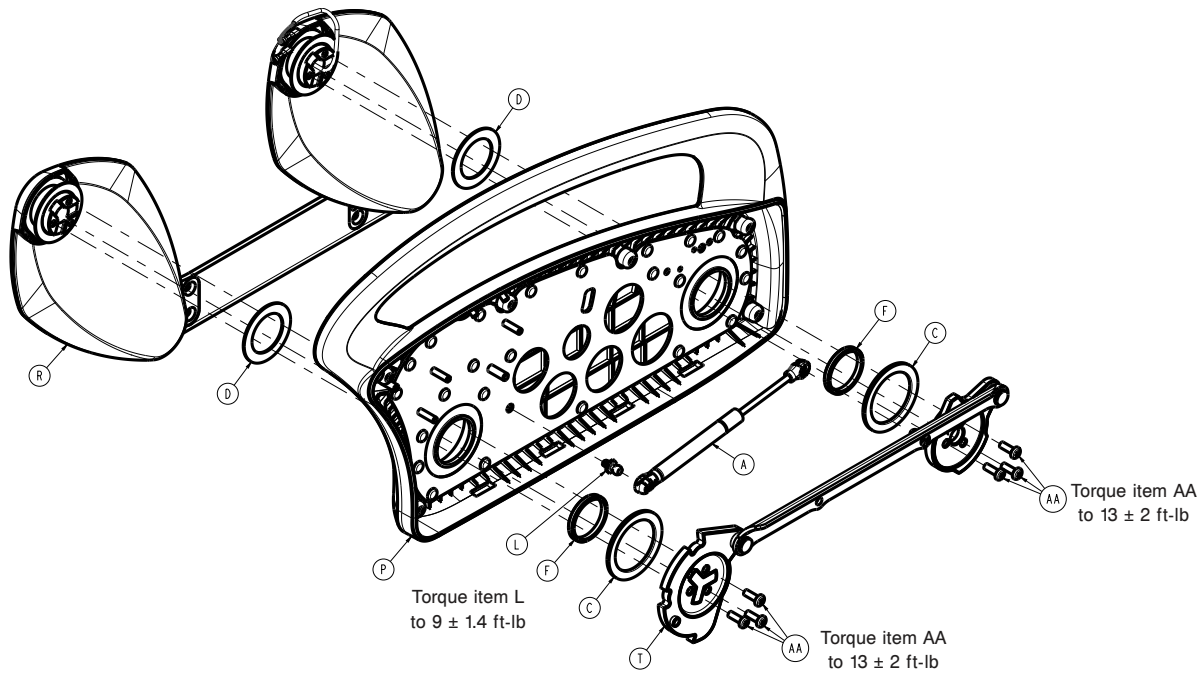

Figure 43 – Replacing the foot siderail hoop
15. Using a ratchet and a T30 Torx driver, remove the six screws (AA) that secure the timing link cams to the siderail arms (Figure 43). Save the screws.
16. Using a slotted screwdriver, unclip the gas cylinder (A) from the timing link assembly (T) and the siderail hoop frame (P) to remove the gas cylinder (Figure 43).
11. Using a ratchet and a T30 Torx driver, remove the six screws (AA) that secure the timing link cams to the siderail arms (Figure 43). Save the screws.
12. Using a slotted screwdriver, unclip the gas cylinder (A) from the timing link assembly (T) and the siderail hoop frame (P) to remove the gas cylinder (Figure 43).